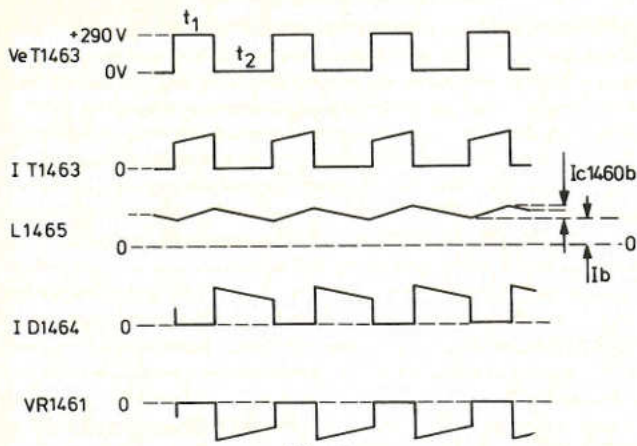

Fig. 3
**a. Operation.** This power supply circuit supplies a stabilised voltage of 129V to the horizontal output stage and is protected against excess currents and voltages. The operating principle is that of a loss-free d.c. converter in which T1463 is turned on and off by the drive section at line frequency, 15,625 times per second. When T1463 is turned on during the time  $t_1$ , the voltage on the emitter will be 290V approx. (Fig. 3) and energy is stored in L1465. When T1463 is cut off, during  $t_2$ , the current in L1465 tends to persist and D1464 is turned on via sensing resistor R1461. The emitter voltage of T1463 then becomes approximately 0V. This results in a square-wave voltage of 290V p-p on the emitter of T1463 (Fig. 3). By means of L1465 and C1460b an average value of this square-wave voltage is obtained, directly proportional to the ratio of  $t_1$  to  $(t_1 + t_2)$ . This is referred to as the duty cycle. In order to stabilise the output voltage, regardless of the input voltage or load, the output is compared to a reference voltage. When the drive section detects that the output voltage is too high, the duty cycle is reduced. The reverse happens if the output voltage is too low. When the current through the load increases the current through D1464 also increases and the pulses across R1461 become more negative. If these pulses exceed a certain value, the drive section is switched off and the duty cycle becomes zero. This is the over-current protection arrangement.